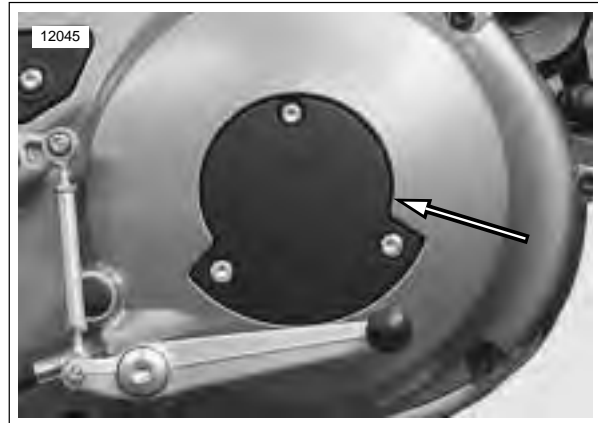

Figure 1-24. Clutch Inspection Cover
8. See Figure 1-24. Install clutch inspection cover tightening three fasteners and washers to 84-108 **in-lbs** (10-12 Nm).
3. See Figure 1-24. Remove three fasteners and washers from clutch inspection cover. Remove clutch inspection cover and gasket from primary cover.
8. See Figure 1-24. Install clutch inspection cover and **new** gasket using three fasteners and washers and tighten to 84-108 **in-lbs** (10-12 Nm).